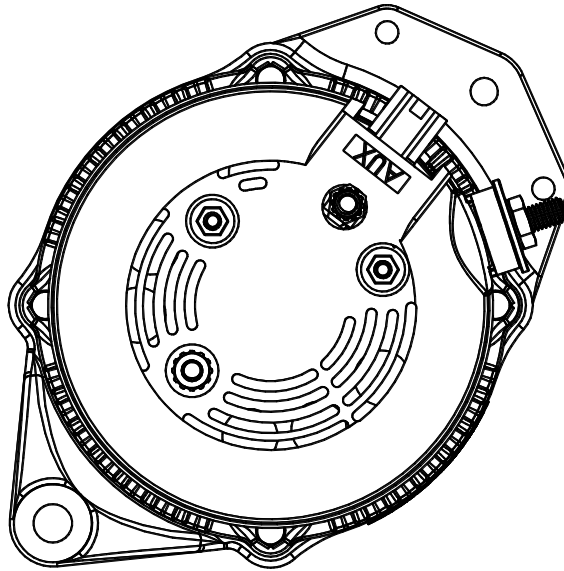

Figure 2 – Alternator Orientation (view looking at rear of alternator)
5. Inspect the alternator (Item 1.1) to ensure that the output terminal is located correctly per Figure 2.